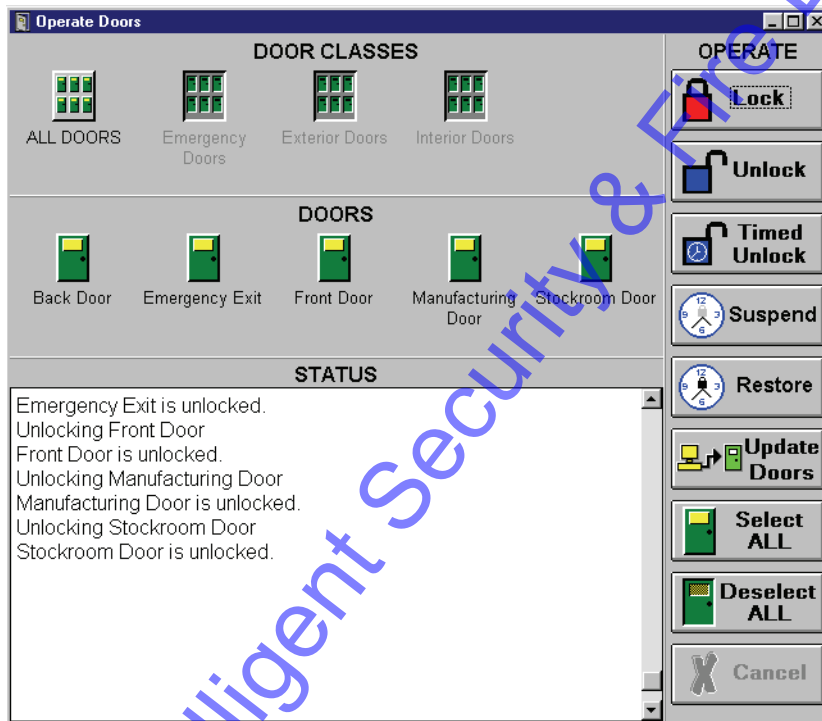

Figure 6-5: Unlocking All Doors
2. Click on the  button, and then click on the  button. The resulting window should look similar to Figure 6-5.